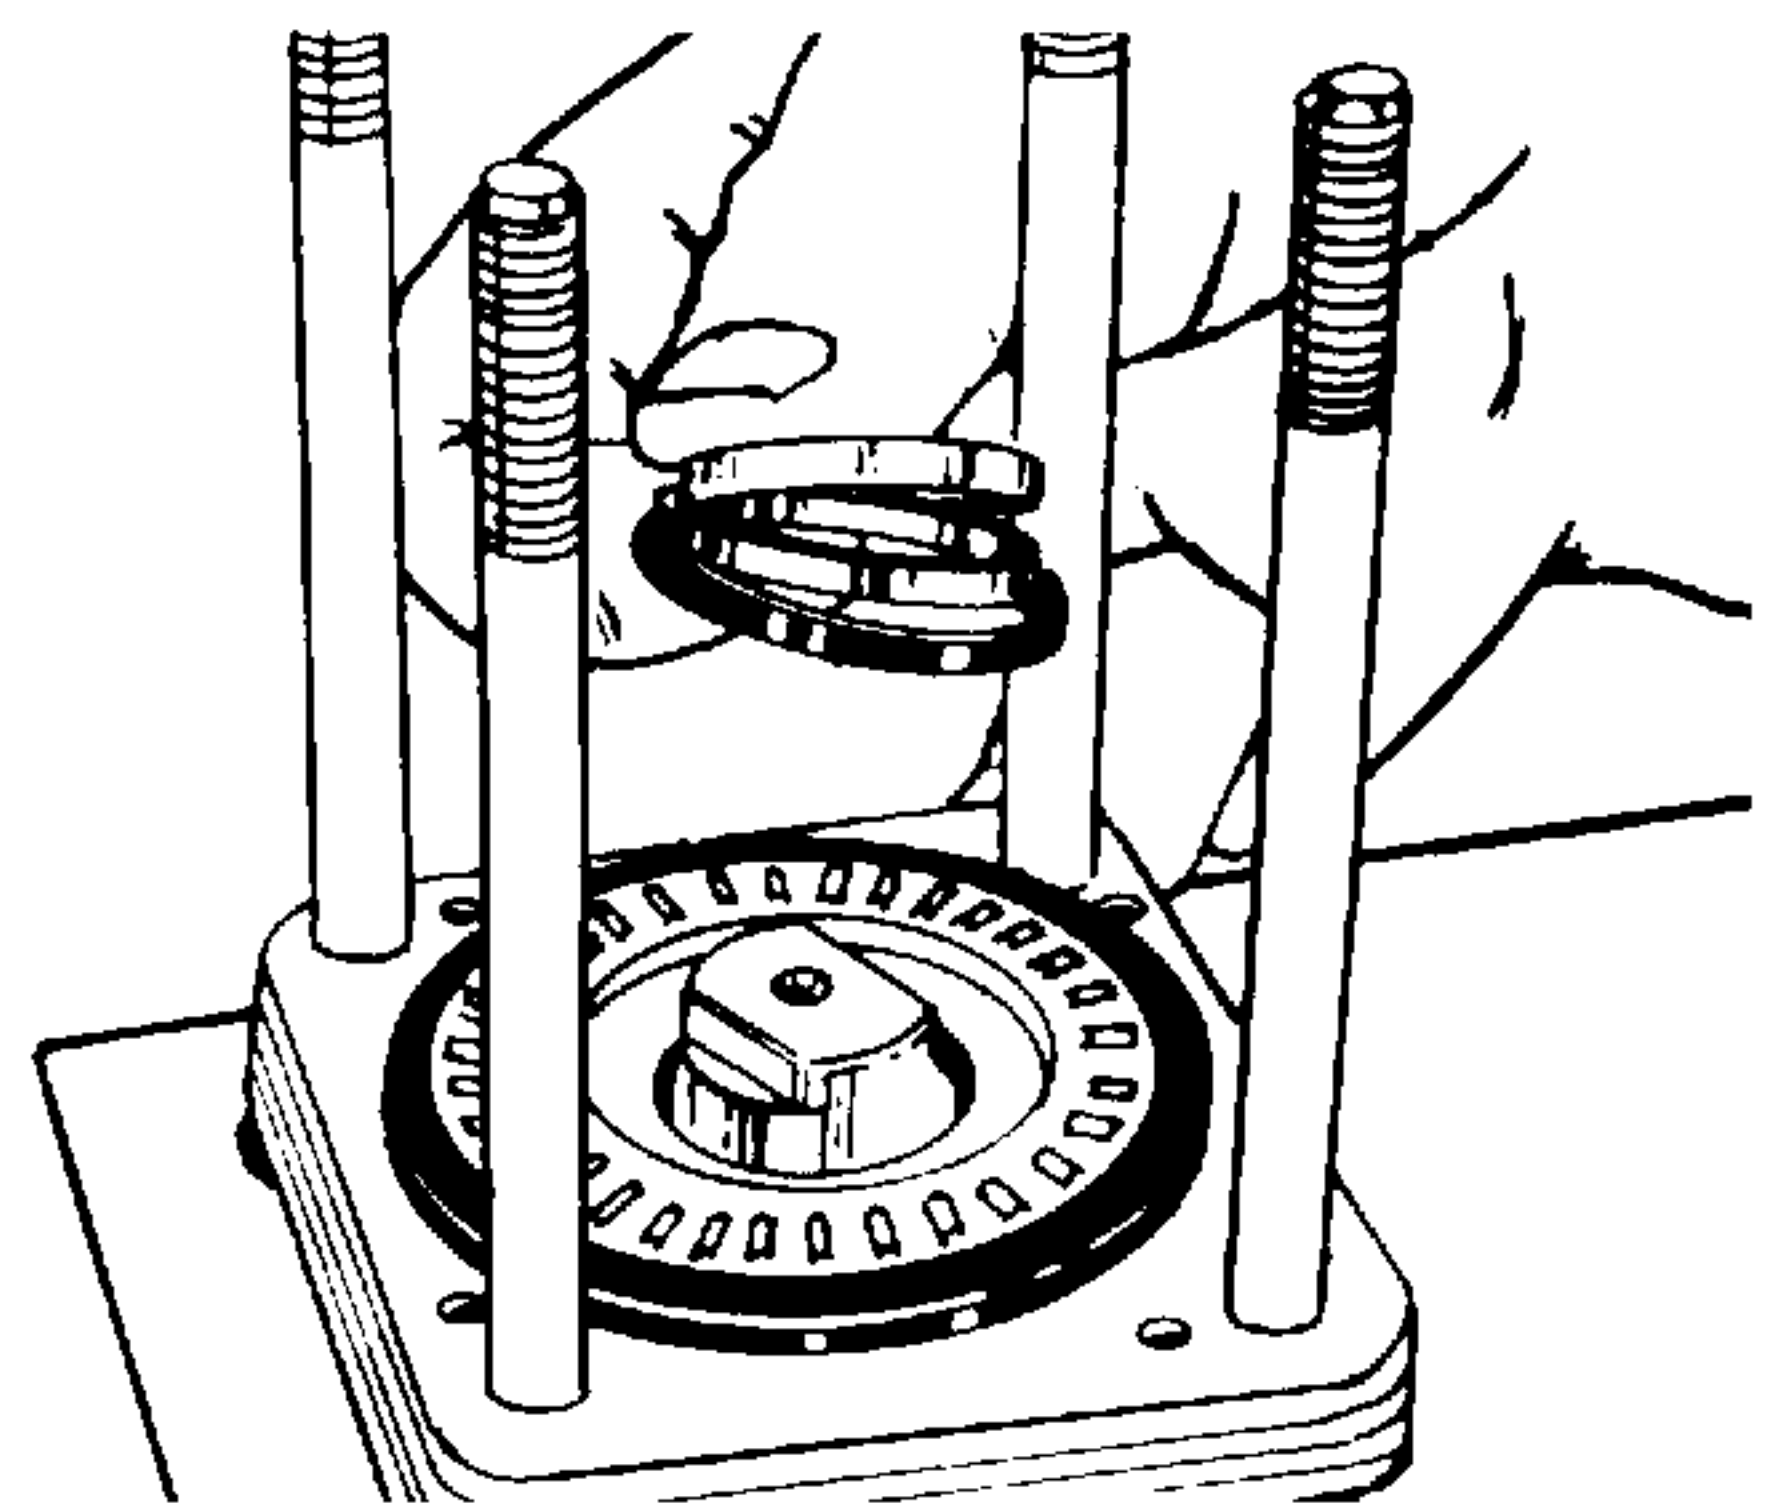

Figure 4-33. Removing Face Seal, Back-Up Ring and Spacer.
38. Remove face seal (27, Figure 4-1), back-up ring (28), and face seal spacer (29) from upper cover plate (30). Discard face seal (27) and back-up ring (28). Retain metal spacer (29). See Figure 4-33.